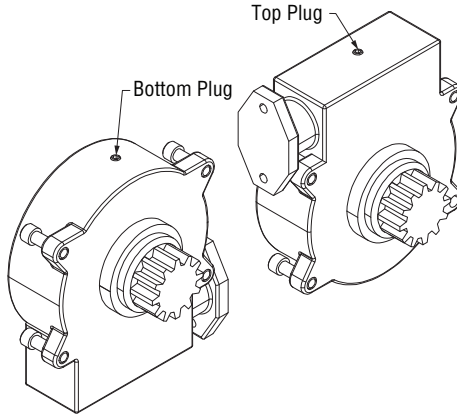

Figure 5-12, Gearbox Grease Plugs (YGC-49 shown)
2. If the gearbox has been serviced, remove the top and bottom plugs from the gearbox. Completely fill the gearbox with Mobilux EP1 or equivalent grease. (Figure 5-12)